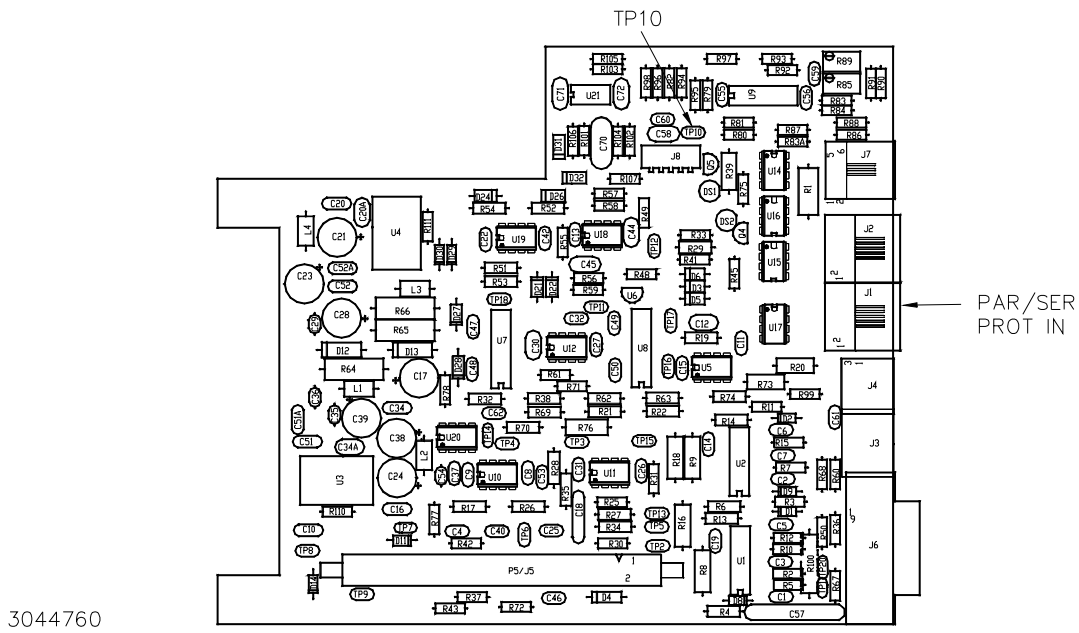

FIGURE 4. ASSEMBLY A2A5 COMPONENT LOCATIONS
- Locate module A2A5 (see Figure 4), then cut or unsolder the test loop wire of TP10 on A2A5.